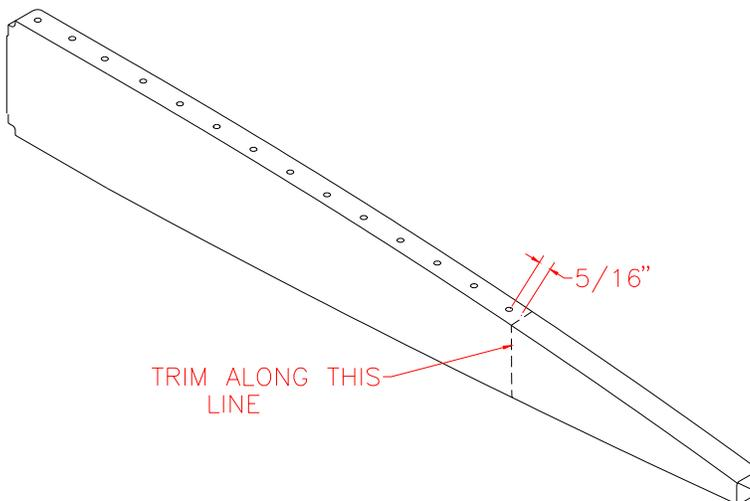

Figure 3.4.1
- 1) Mark the center two ribs $5/16''$ from the last hole. Trim at this mark. Figure 3.4.1.